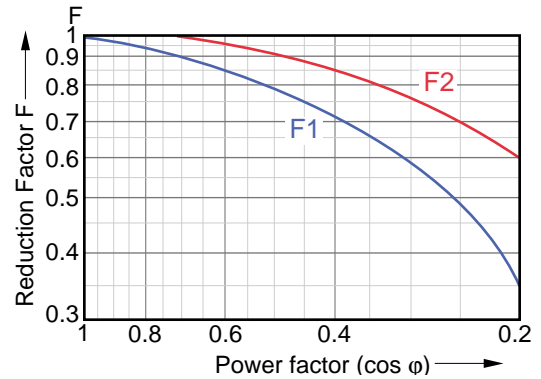

Figure A4 Derating curves
* With resistive loads; derate with reactive or inductive loads as per figure A4, in which: